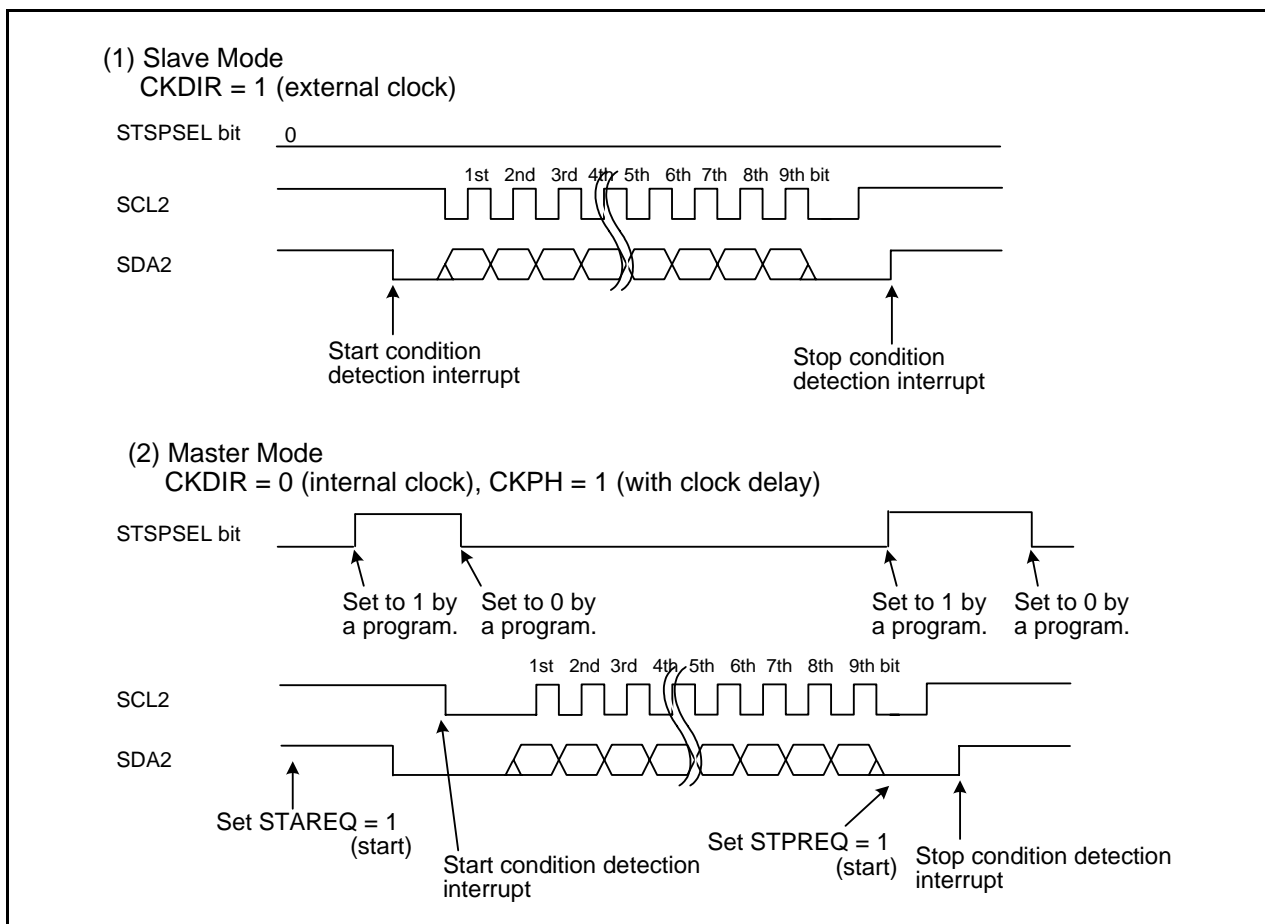

Figure 23.16 STSPSEL Bit Functions
- Refer to **Figure 23.16 STSPSEL Bit Functions**.
Table 23.13 lists the STSPSEL Bit Functions. Figure 23.16 shows the STSPSEL Bit Functions.